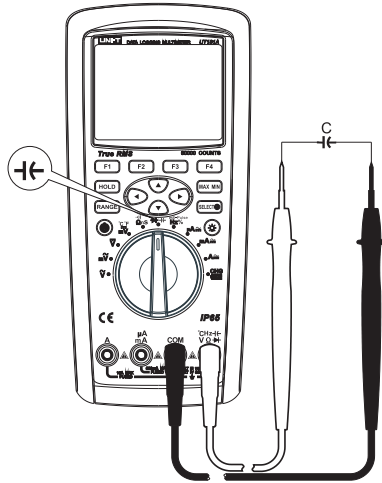

Figure 9
- 2) Set the rotary switch to the measurement  $\text{F}$ , press the key SELECT to select capacitance measurement. Connect the test leads to both ends of the measured capacitance as shown in Figure 9.